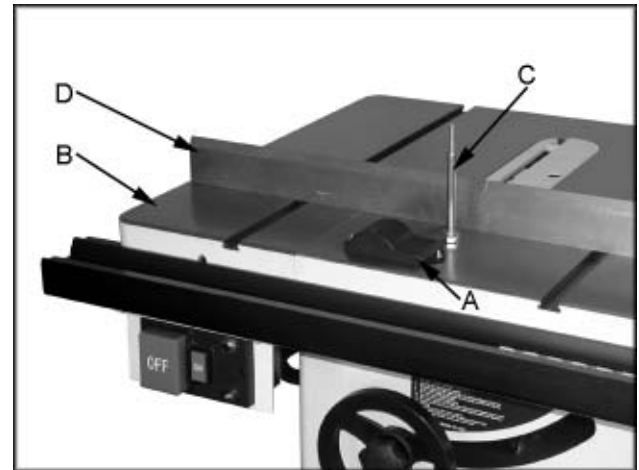

Fig. 10
- **Hardware:** Left Extension Wing, (4) M10x120 Hex Head Bolts, (4) M10 Lock Washer, (4) Flat Washers
1. Remove the arbor pulley guard (A, Fig. 10) when using the left extension wing.
2. Attach left extension wing (B, Fig. 10) to the table with four hex cap bolts, four lock washers and four flat washers (C, Fig. 10). Snug but do not tighten.
4. Using a straight edge (D, Fig. 10), align extension wing to the saw table and tighten the hex cap bolts. **Note:** Use a rubber mallet to align wing with table. If you don't have a straight edge you can use the fence after removing the fence body and hook.